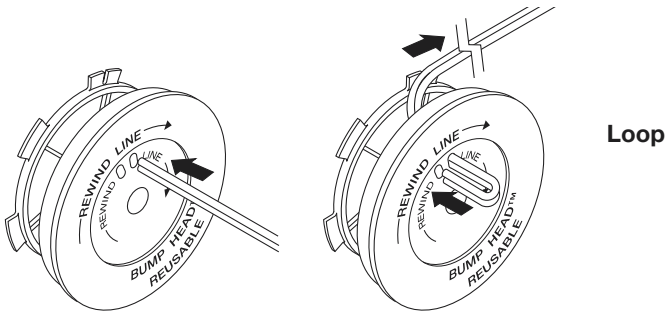

Fig. 20
8. Take approximately 12 feet (3.65 m) of new trimming line. Insert one end of the line through one of the two holes in the inner reel (Fig. 20). Pull the line through the inner reel until only about 4 inches is left out.
9. Insert the end of the line into the open hole in the inner reel and pull the line tight to make the loop as small as possible (Fig. 20).